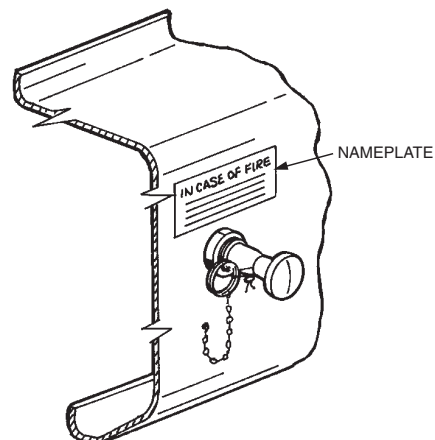

FIGURE 12
- Affix the appropriate operating nameplate adjacent to the manual actuator and visible for attending operator. See Figure 12.
- Make certain ring pin is inserted through the RED actuator button to ensure safe cartridge installation. See Figure 12.
- Seal ring pin to actuator stem with visual inspection seal, Part No. 197. Make certain visual inspection seal is looped through ring pin and around actuator stem. Do not wrap seal around the boot cover. See Figure 12. **DO NOT INSTALL CARTRIDGE AT THIS TIME.**